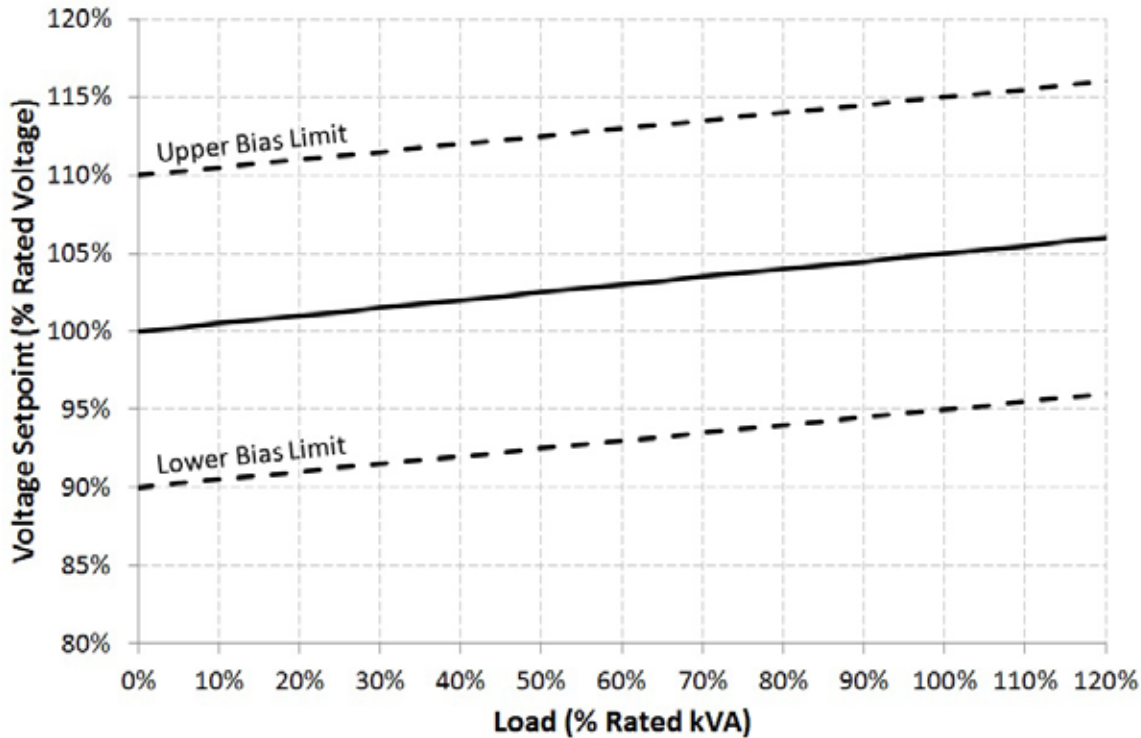

Figure 28.10 – Line Loss voltage setpoint change based on total (kVA) load
For example, if it is observed that the voltage at the load side of the feeder line has decreased by 5% from rated voltage when the generator is supplying rated kVA load, the Voltage Regulator (IR) Compensation Percentage should be set to 5.0%. In this case, the output voltage measured at the generator terminals will increase from 100% to 105% of rated voltage as the generator load increases from 0% to 100% of rated kVA, as illustrated in Figure 28.10.
If a bias is applied to the voltage setpoint from an external source, the IR compensation percentage is applied to the nominal setpoint plus the bias percentage. For example, if a +10% or -10% bias were applied to the nominal voltage, the voltage setpoint would increase linearly as shown by the Upper and Lower Bias Limit dashed lines indicated on the diagram presented in Figure 28.10.